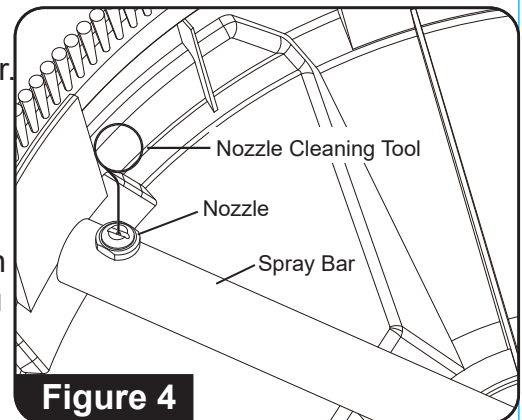

Figure 4
5. Using the nozzle cleaning tool, free any foreign material clogging or restricting the nozzle. (See Figure 4)